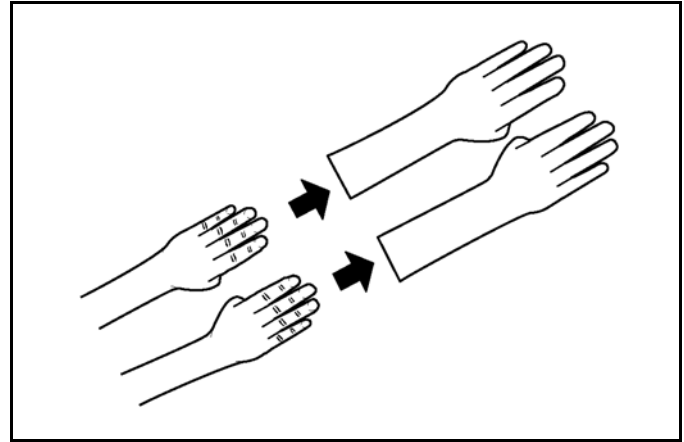

Figure-33
1. Put on heat-resistant gloves. See Figure-33.